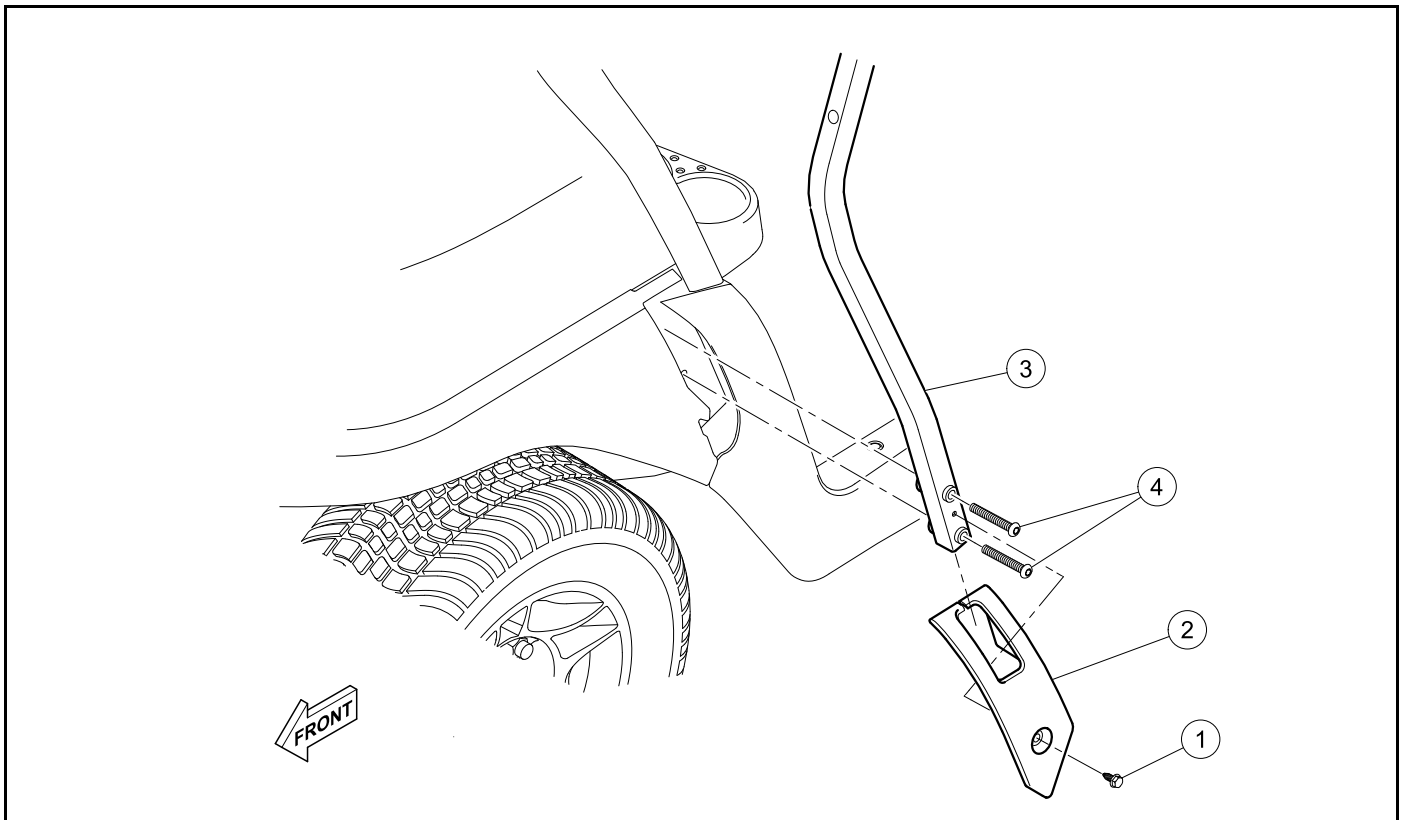

Figure 4-23 Front Canopy Strut Installation
1. Install the front canopy strut (3) onto the vehicle (**Figure 4-23**).
2. Install the front canopy strut cover (2) onto the front canopy strut.
3. Install the screws (4). Tighten the screws to 18.4 lb·ft (25 N·m).
4. Install the screw (1). Tighten the screw to 31 lb·in (4.6 N·m).